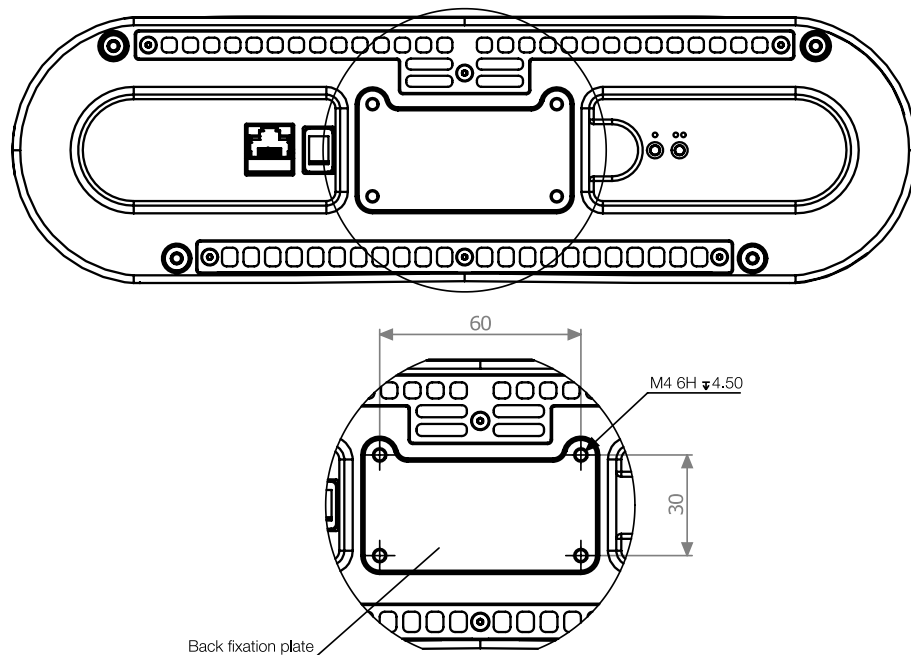

Figure 5.1: The fusionTrack screws fixation.
Firm mounting can be achieved by using four (4) M4 screws (max depth 8 mm). More explanations are provided on Figure 5.1